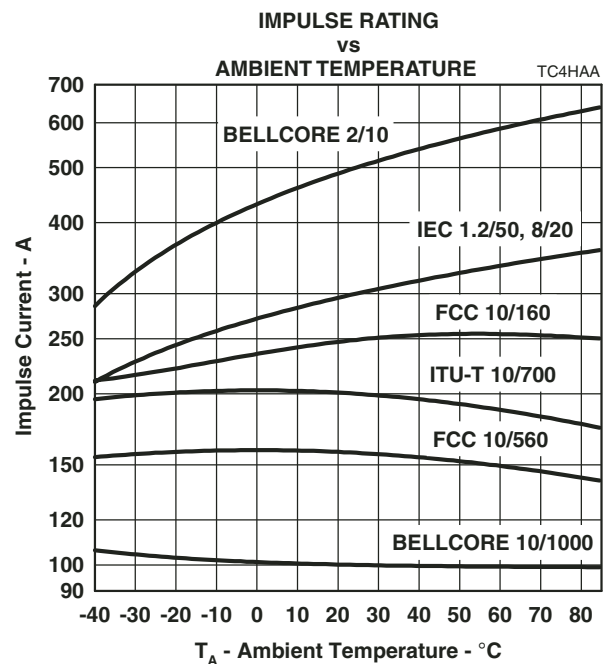

Figure 11.
4. See Applications Information and Figure 11 for current ratings at other temperatures.
If the impulse generator current exceeds the protector's current rating, then a series resistance can be used to reduce the current to the protector's rated value to prevent possible failure. The required value of series resistance for a given waveform is given by the following calculations. First, the minimum total circuit impedance is found by dividing the impulse generator's peak voltage by the protector's rated current. The impulse generator's fictive impedance (generators peak voltage divided by peak short circuit current) is then subtracted from the minimum total circuit impedance to give the required value of series resistance. In some cases, the equipment will require verification over a temperature range. By using the rated waveform values from Figure 11, the appropriate series resistor value can be calculated for ambient temperatures in the range of -40 °C to 85 °C.